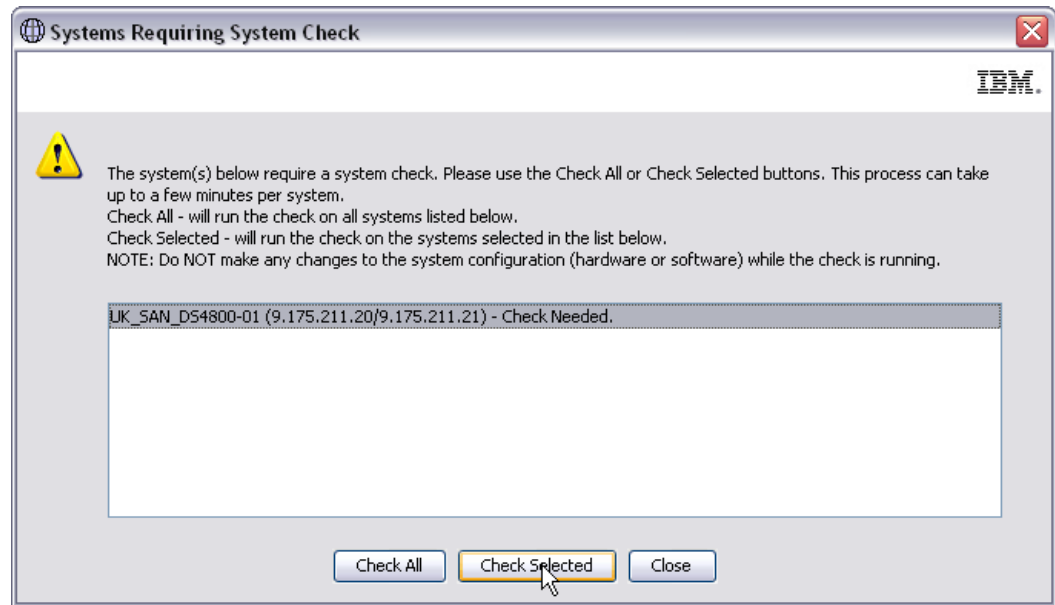

Figure 7-16 DbFix system check selection window
4. Select **System Check** → **System Check**. A new window opens that shows just the DS4000/DS5000 storage subsystems that need checking, as shown in Figure 7-16.